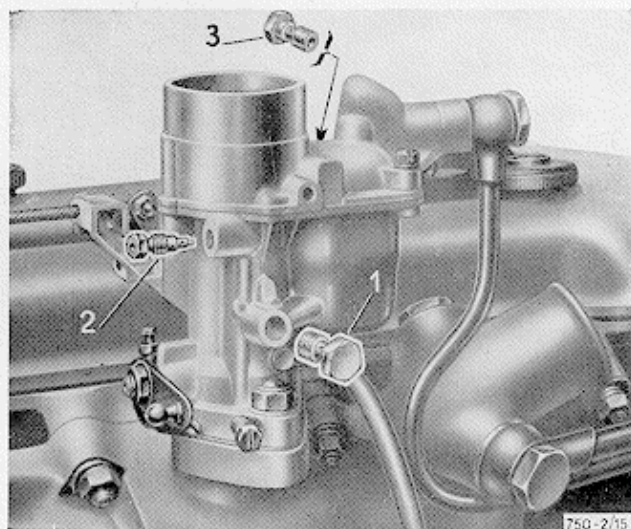

Fig. 15 - Carburettor Solex C 32 BIC for Giulietta Berlina
h) **Remove the carburettor jet-holders** (figs. 15, 16 and 135) and clean the jets with compressed air; do not use a metal spike, as the orifice diameter must not under any circumstances be altered.